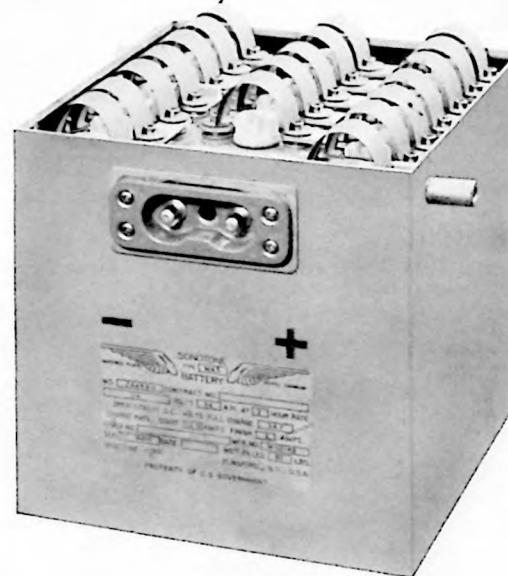

FIGURE 5
j. Discharge entire battery (*consult Discharging a Battery, 5.4*). Monitor each cell to determine that all cells are completely discharged. Should some cells reverse and others retain a portion of their charge, it will be necessary to short the cells individually until each cell is completely at zero (*see Figure 5*).